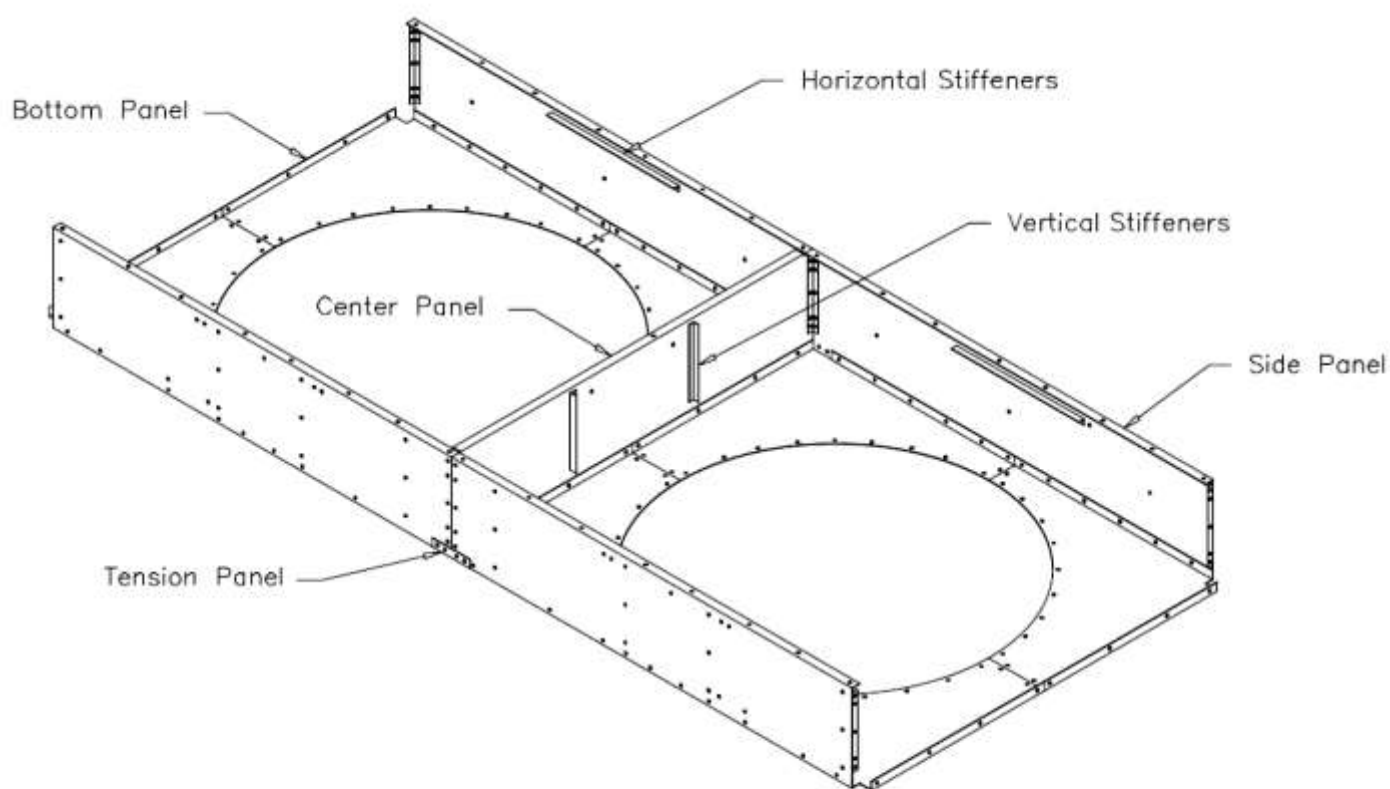

FIG.B1—BOTTOM, CENTER, AND SIDE PANELS
1. Set all bottom panels on a level surface. Install vertical stiffeners, panel supports, and horizontal stiffeners, if required, to side, end, and center panels. Attach side panels, center panels, and tension angles, if required, to bottom panels. Tighten all bolts. See Fig. B1.